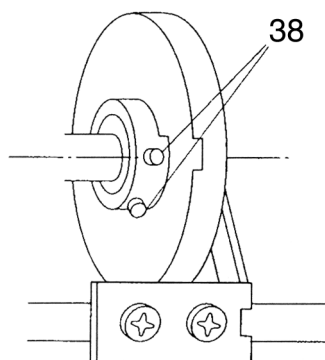

Fig. 50
- Slightly loosen the screws 38 on the drive eccentric (fig. 50).